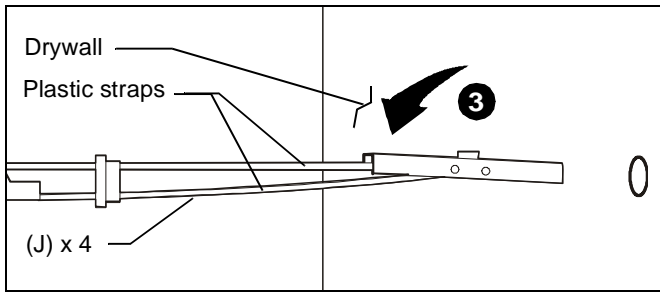

Figure 5
3. Hold metal channel on anchor (J) flat alongside plastic straps and slide channel through hole. (See Figure 5)